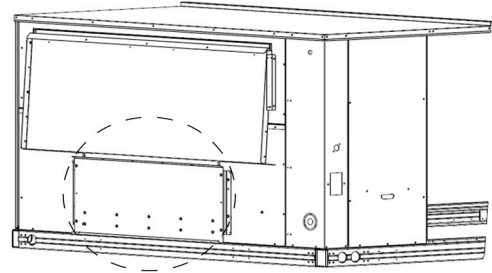

Fig. 19 — Shipping Location, Vertical Units
1. Remove the hood top panel from its shipping position on the unit end. (See Fig. 19.)